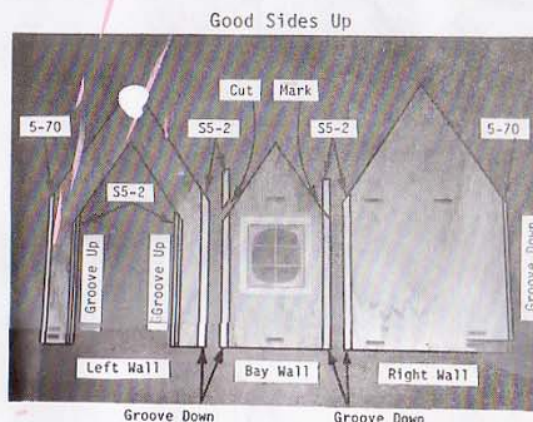

Figure 3
3. Locate **Left Wall, Right Wall** (AH-2,3) and **Bay Wall**. Lay them on the table with the good side up. Temporarily tape S5-2 and 5-70 to the edges. With the bottom edges flush, cut the S5-2 and 5-70 along the same angle as the slope of the gable. Glue in place. Make sure the S5-2s are squarely glued in place. See Figure 3.